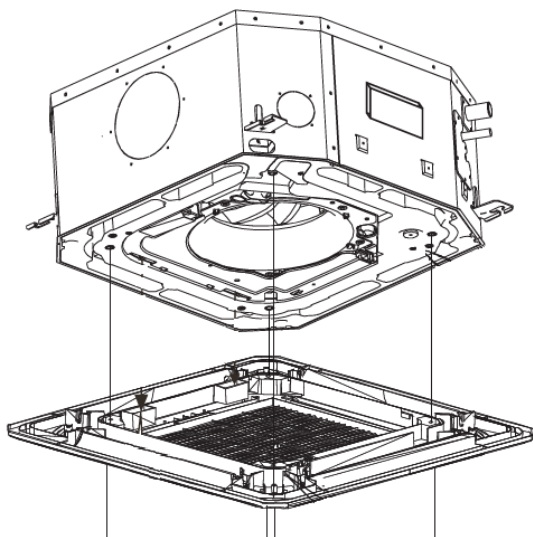

Fig. 8 — Mounting Panel
- Secure the panel (without the grille) onto the unit, using M5 x 16 screws and washers. Before tightening the screws, be sure the panel is flush with the false ceiling. See Fig. 8.